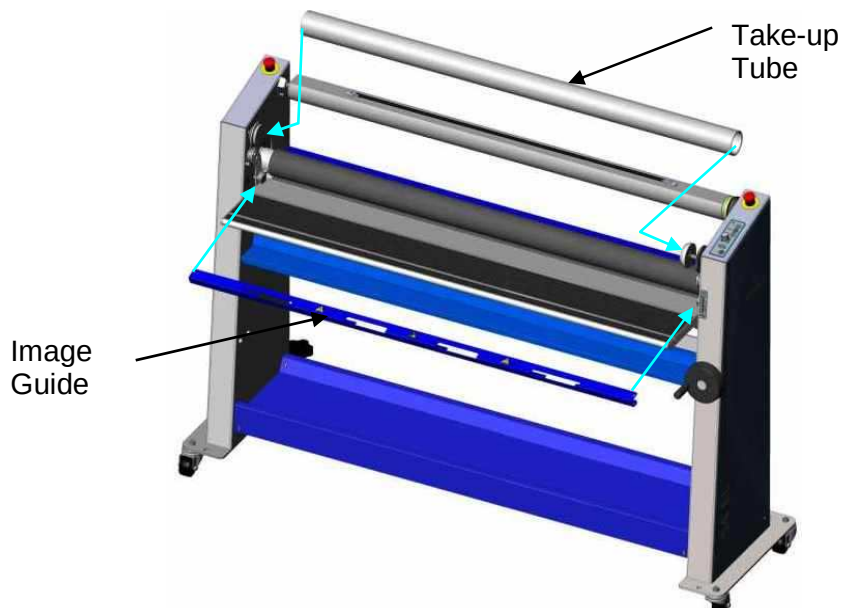

Figure 5
2. Install Image Guide on table as shown in figure 5.
3. Install Take-up Tube onto right side first compressing spring on the right side then inserting left side onto drive (figure 5).